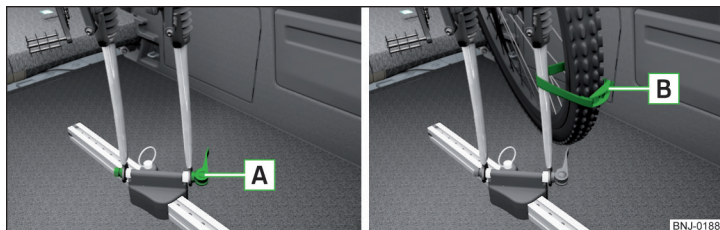

Fig. 113 Insert the front fork of the bicycle into the carrier / mounting example of the front wheel
- Release the quick release **A** » Fig. 113 on the carrier and adjust according to the bicycle fork width.
- Attach the front wheel with belt **B** to the front fork » Fig. 113 or to the bicycle frame.